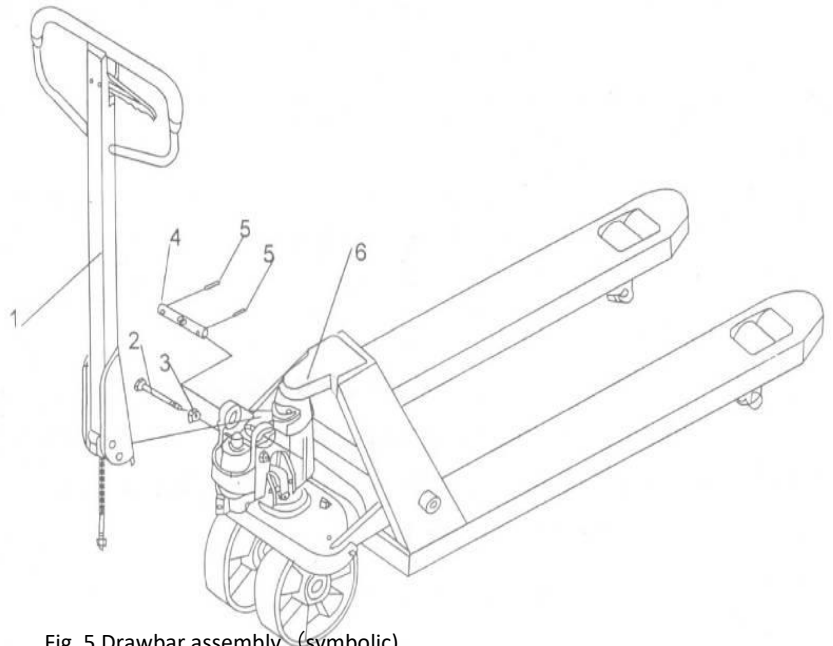

Fig. 5 Drawbar assembly (symbolic)
c) Press the drawbar arm downwards; remove the pin (2, Fig. 5).
d) Move the tiller control lever to the "FAST LIFT" (LIFT) position. Then lift the lever plate with the pin (2, Fig. 5) and insert the adjustment screw into the front slot of the lever plate. Note: Leave the adjustment nut under the lever plate
e) Use a hammer to insert the second dowel pin (5, Fig. 5) into the second hole of the axle.